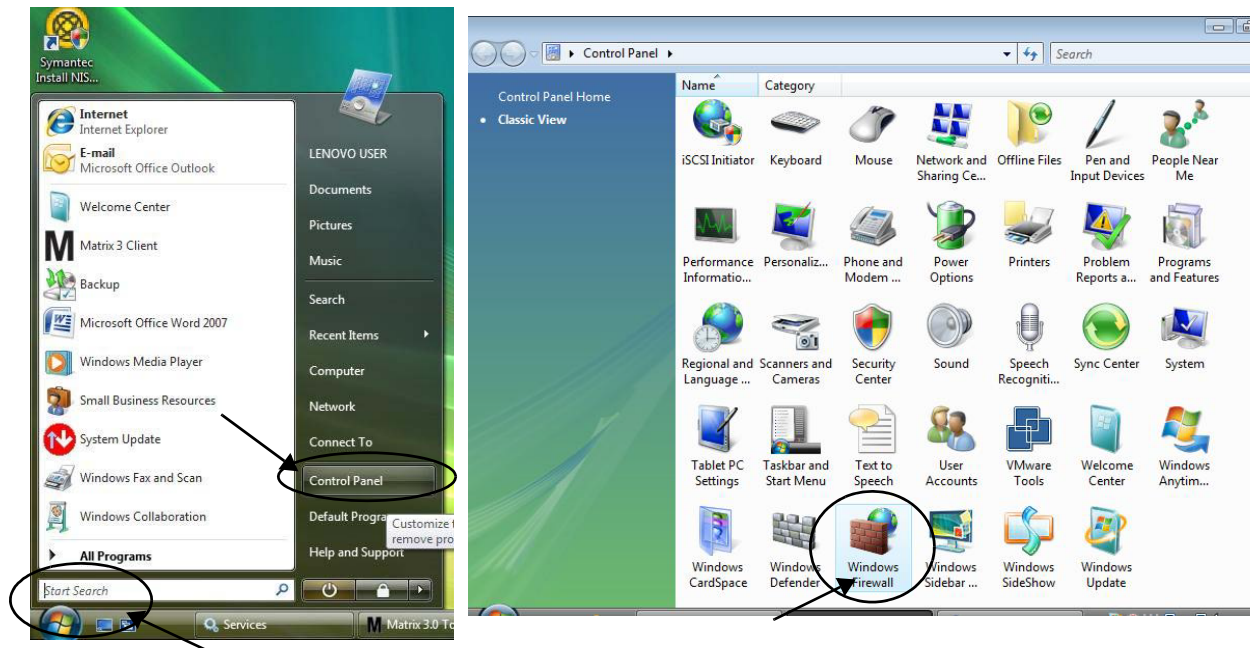

FIG. 35
1. Click on Start/Control Pane. Then select Windows Firewall (FIG. 35).